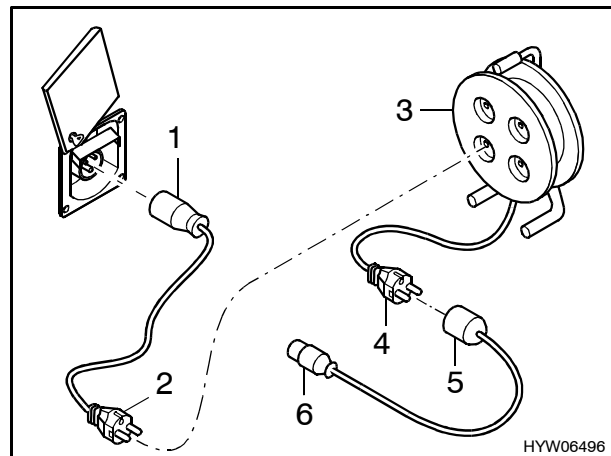

Fig. 114 Connection possibilities for 240 V power supply
- Tilt cover in an upward direction (Fig. 114).
CEE 17 socket with earth contact (Fig. 114,1) – plug with earth contact (Fig. 114,2).
Socket with earth contact (Fig. 114,3) – plug with earth contact (Fig. 114,4).
Socket with earth contact (Fig. 114,5) – CEE 17 plug with earth contact (Fig. 114,6).